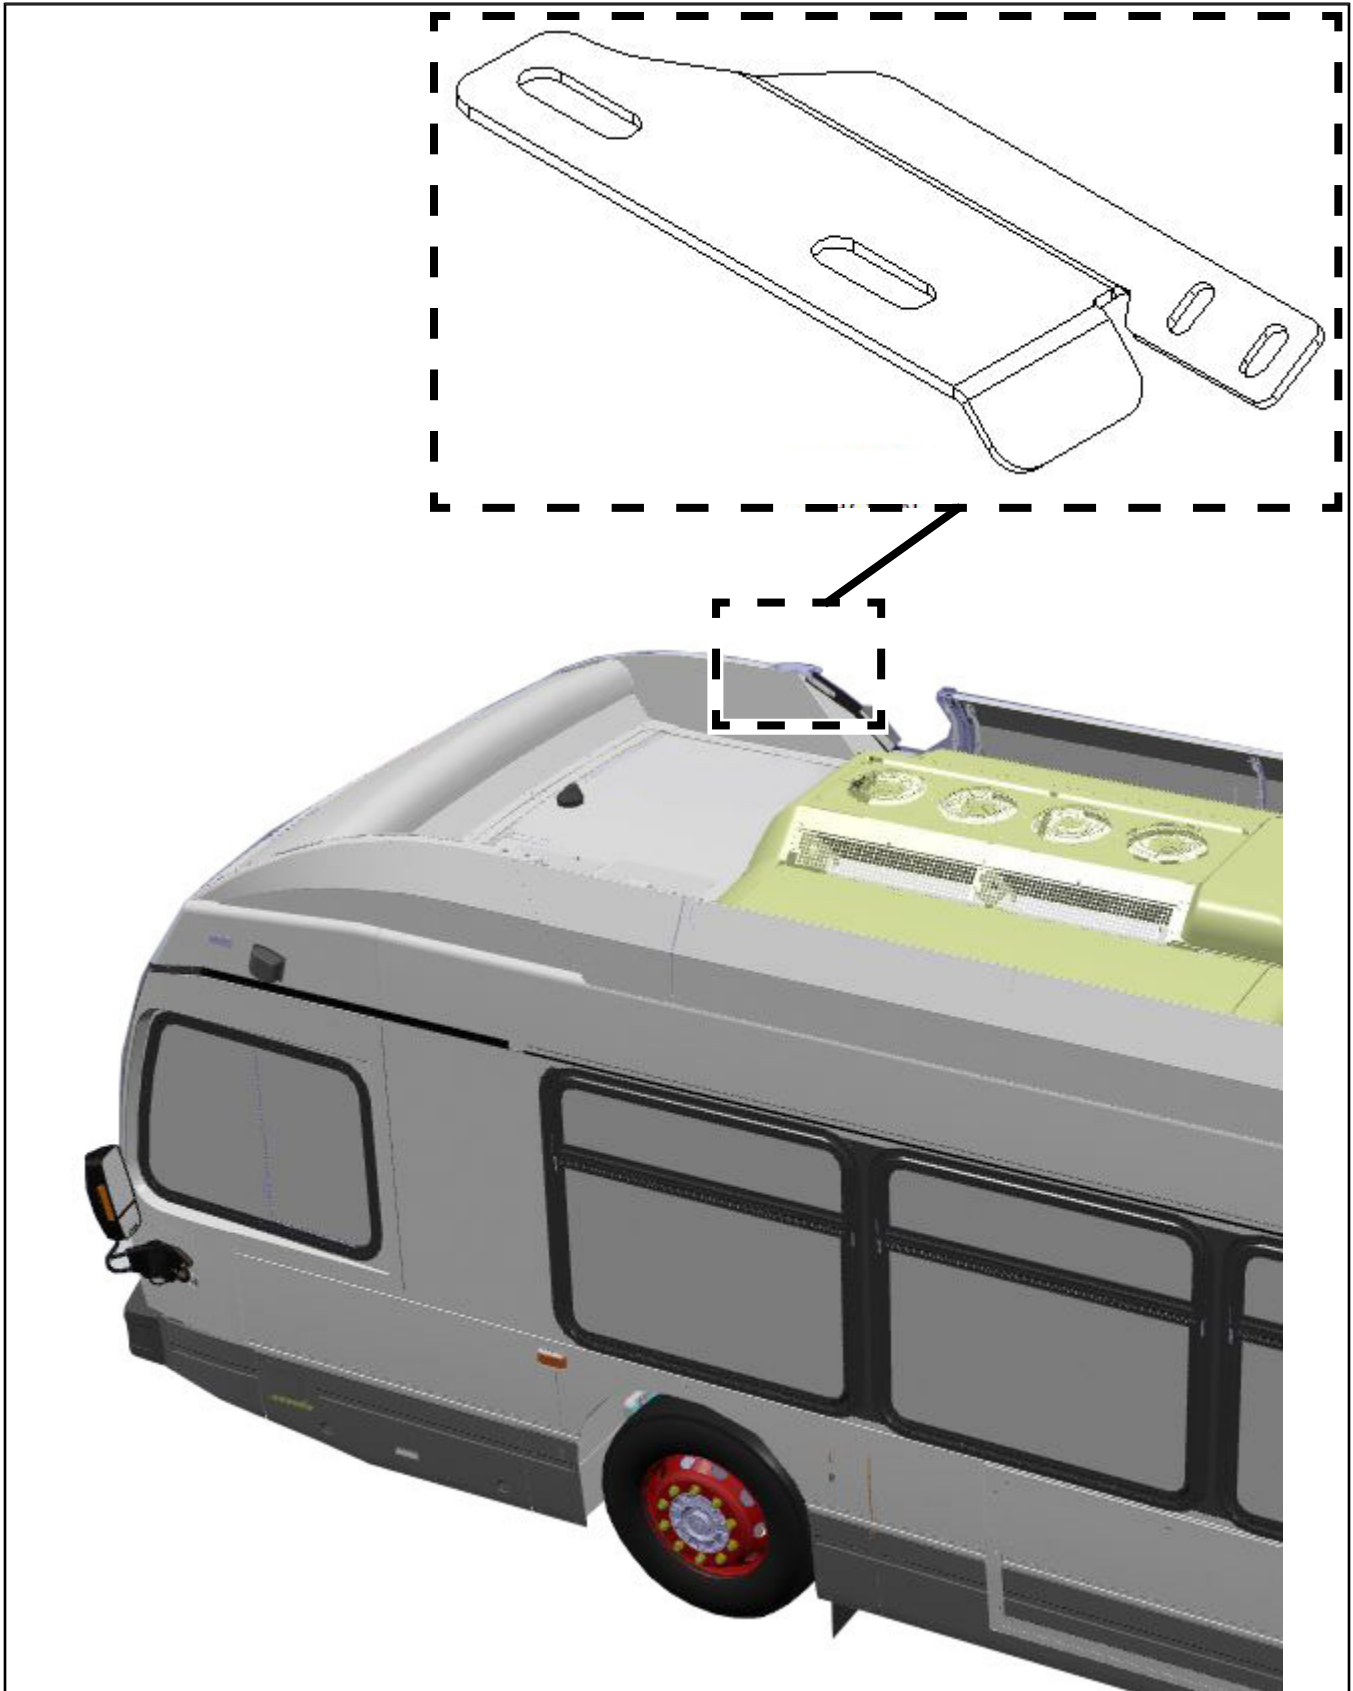

Figure 1 - Bracket Location (Typical on Both Side)
- 1.4. Remove the original roof fairing bracket (see figure 1).